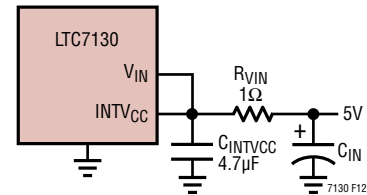

Figure 12. Setup for a 5V Input
in Figure 12 to minimize the voltage drop caused by the gate charge current. This will override the INTCC linear regulator and will prevent INTCC from dropping too low due to the dropout voltage. Make sure the INTCC voltage is at or exceeds the RDS(ON) test voltage for the MOSFET which is typically 4.5V for logic-level devices.